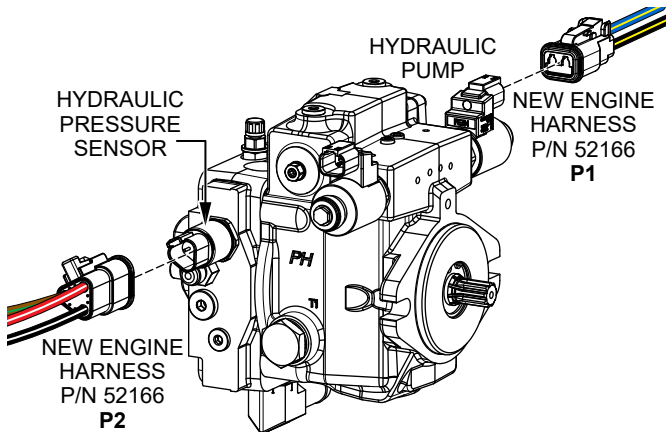

Figure 11. Connect New Engine Harness To Hydraulic Pump And Pressure Sensor
9. Connect connector **P1** on the new engine harness (P/N 52166) to the hydraulic pump as shown in Figure 11.
10. Connect connector **P2** on the new engine harness (P/N 52166) to the hydraulic pressure sensor as shown in Figure 11.